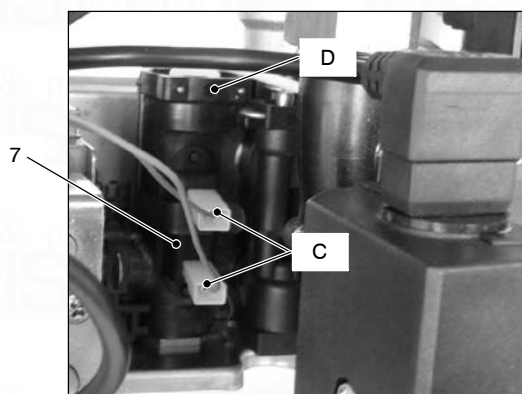

Fig. 67
- 2 Disconnect the connectors **C** and remove the sensor holder spring 7 (Fig. 67).